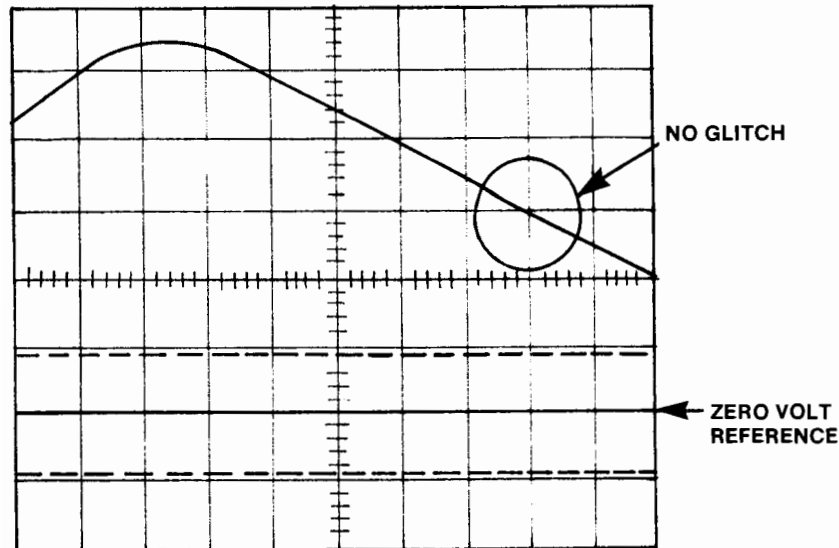

Figure 6. Position Signal Waveform
3. Press the SELF TEST switch. While the corebar is moving, adjust the oscilloscope TRIGGER LEVEL until a stable trace of the position signal at TP7 occurs. Adjust R99 (labelled RESET ADJ) until the position signal at TP7 appears as shown in figure 6 and the auto reset level at TP18 is near zero. The auto reset level will continuously move back and forth between the two closely spaced levels as auto adjust occurs. Proper adjustment of R99 will place these levels near zero. (If a waveform as shown in figure 6 appears, this indicates that the reset is occurring either too early or too late with malfunction of the auto reset circuit).